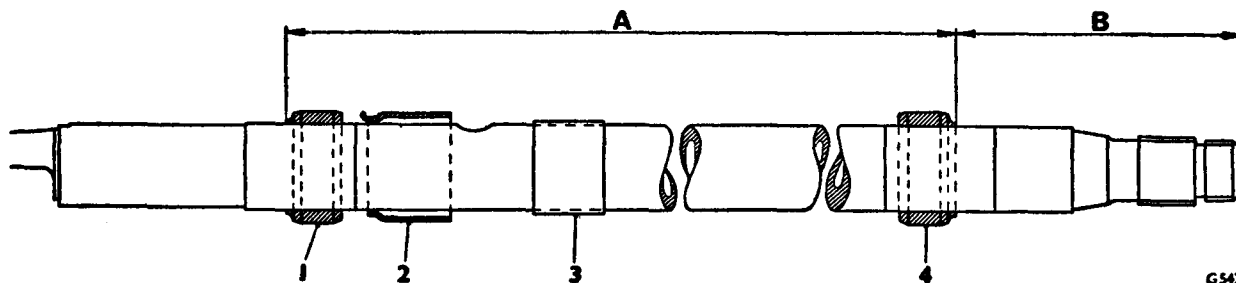

FIG. N3 ASSEMBLY OF INNER STEERING TUBE
3. Press the new races into position on the inner column. The races must be positioned to conform with the dimensions given in *Figure N3*; the pencil marks provide a useful guide.